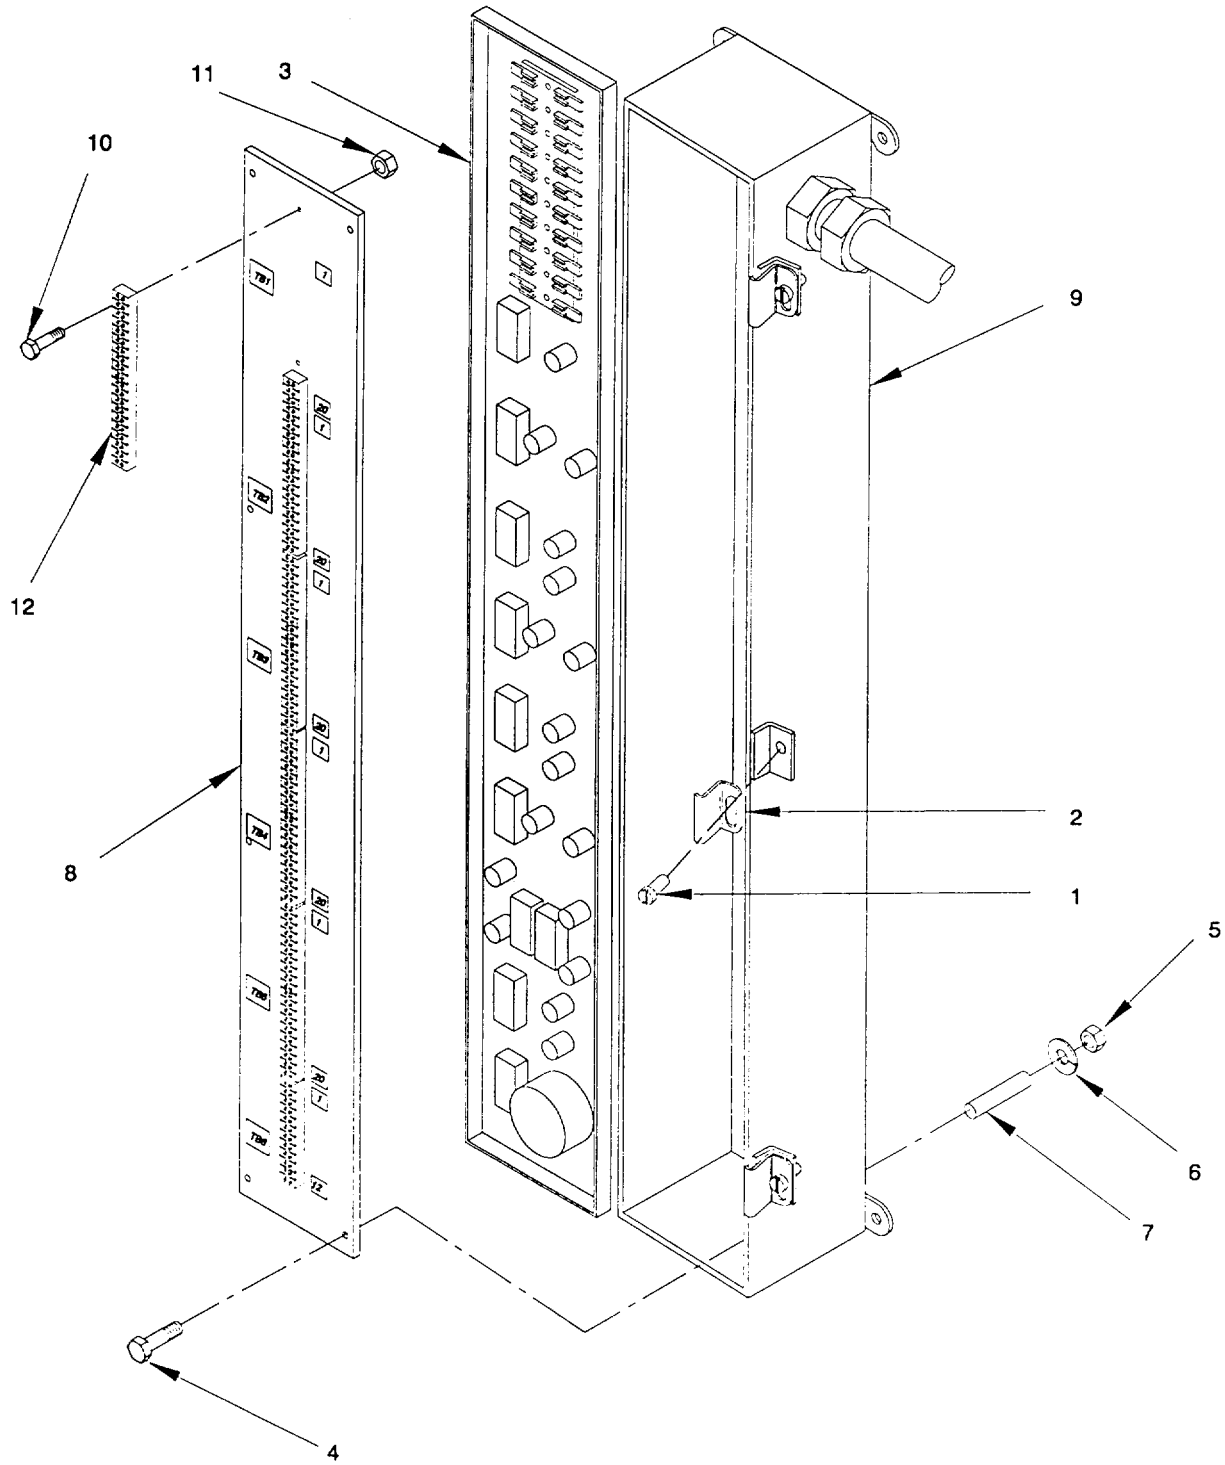

Figure 2-158. Terminal Blocks, Mast Enclosure, Remove/Install.
a. Remove. (figure 2-158)
- (1) Remove three screws (1) and three clamps (2) securing door (3) to mast enclosure (9).
- (2) Open enclosure door (3) to access interior of mast enclosure (9).
- (3) Disconnect and tag all electrical connections to the terminal block(s) (12) to be replaced (TB1 through TB6) and back plate (8) before disconnecting wiring. Refer to Appendix G for wiring list and terminal layout.
- (5) Remove eight pan head screws (4), eight hex nuts (5), and eight lockwashers (6) and eight standoffs (7), freeing back plate (8) from enclosure (9).
- (6) Remove two pan head screws (10) and hex head nuts (11) to free each terminal block (12) from back plate (8).
b. Install. (figure 2-158)
- (1) Position terminal block (12) on back plate (8) and secure with two pan head screws (10) and hex head nuts (11).
- (2) Secure back plate (8) to enclosure (9) using eight standoffs (7), eight pan head screws (4), eight lock washers (6) and hex nuts (5).
- (3) Connect all electrical wiring to terminal block (12) and back plate (8). Refer to Appendix G. Use tie wraps to secure any loose wires.